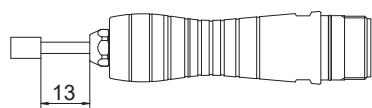

Fig. 1
- ① The Attachment is designed for hand use. Never install this Attachment or any hand tool on a machine such as a special purpose machine, NC lathe or mill.
- ② Do not touch the cutting tool while it is rotating. It is very dangerous.
- ③ Always wear safety glasses, dust mask and hearing protection.
- ④ When installing a cutting tool, tighten the collet chuck correctly and recheck the collet chuck and chuck nut before use. Do not over tighten the collet chuck. This may cause damage to the spindle.
- ⑤ Do not use grindstones with an outside diameter over $\phi 15\text{mm}$.
- ⑥ Do not exceed 13mm of overhang for mounted grindstones as shown in Fig. 1.